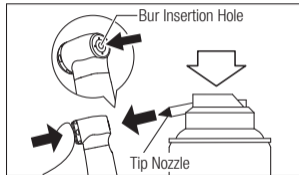

Fig. 9
- 2) Lubricate the chuck directly where the bur is inserted (Fig. 9).